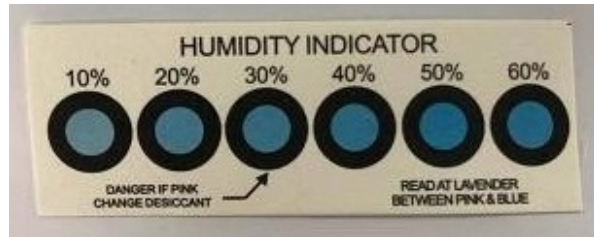

Figure 5-4 Normal Humidity Indication
- When the 30% circle is blue, the humidity condition is normal. See Figure 5-4.